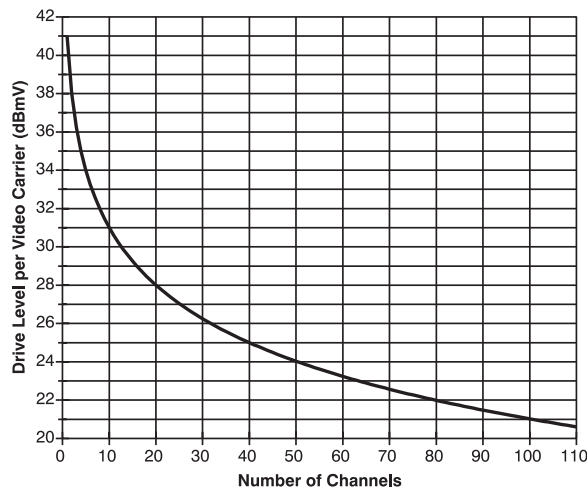

Figure 1.4 Transmitter Level per Channel vs. Number of Channels
- 6) The recommended RF input level is shown in Figures 1.4 and 1.5.